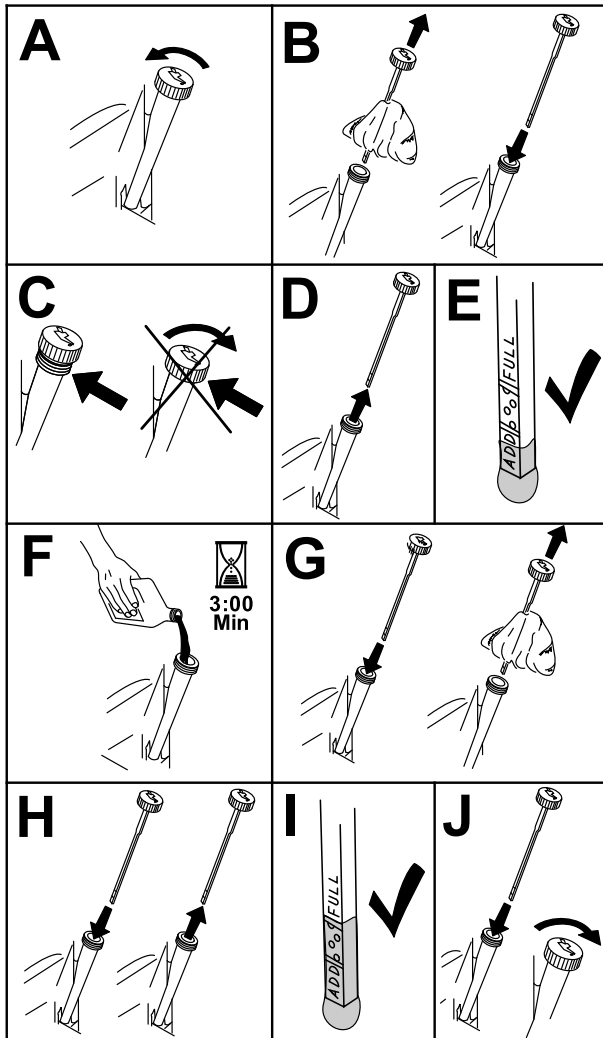

Figure 46
- Shut off the engine, remove the key, and wait for all moving parts to stop before leaving the operating position (Figure 46).